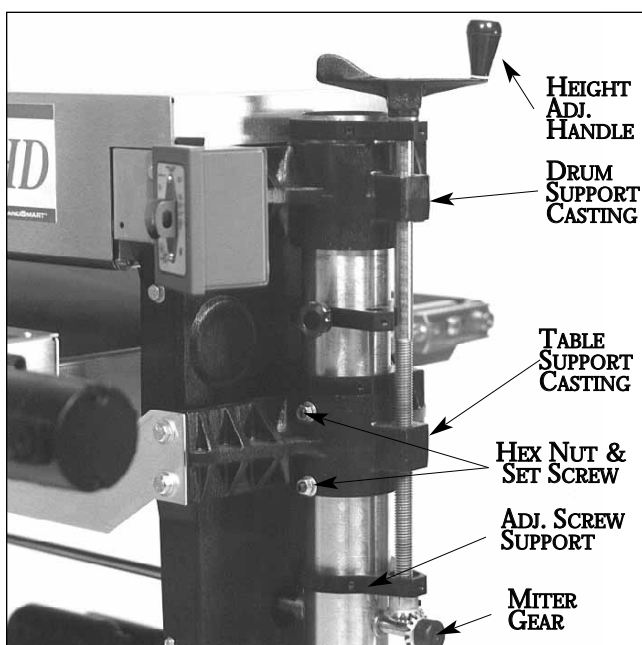

Fig. 19. Table support casting set screws.
When troubleshooting the height adjustment mechanism, first check the conveyor table for level (see page 7). Then test the height adjustment mechanism (See Fig. 19). If it does not operate
1. Loosen the set screws located at the front of the table support castings (Fig. 19).
3. If the height adjustment feels stiff, check for misalignment of adjusting screw supports and the drum support castings which could cause binding on the adjusting screw rods (Fig. 19). These castings can be adjusted by loosening the set screws which secure them to the column tubes. Realign the adjusting screw supports by loosening the two set screws that hold them to the column tubes and rotate to the proper position.
left (outboard) drum supporting casting (Fig. 19) must both be set at the proper height along the column tubes so the height adjusting screws provide for proper miter gear alignment. Before adjusting these parts, tighten one set screw in the table support castings (Fig. 19) to hold the height adjusting screw in position during adjustment.
Also check to see that the column tubes are centered inside the bore of the table support castings (Fig. 19). If not, loosen the casting bolts and tighten the set screws at the front of table support casting to center the tube. Retighten the bolts and loosen the set screws.
distance should be $1/32"$ or less. If there is excessive space, move the adjusting screw support to the proper distance above the miter gear and retighten. Loosen the set screws in the table support castings (Fig. 19) and test for smooth operation.